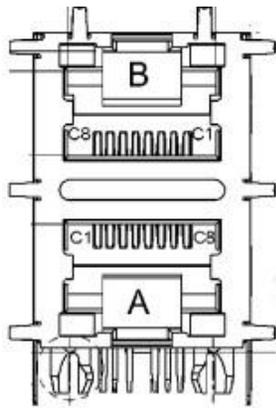

Figure 3-36: Dual RJ45 Connector
- CN Location:** See **Figure 3-36**